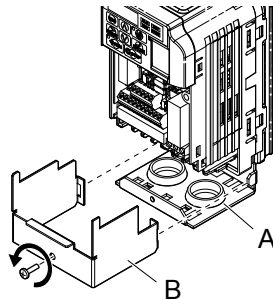

Figure 8.12 Remove the Terminal Cover on a NEMA Type 1 Drive
2. Loosen the screw on the terminal cover (**Figure 8.12, B**) to remove the terminal cover and expose the conduit bracket (**Figure 8.12, A**).